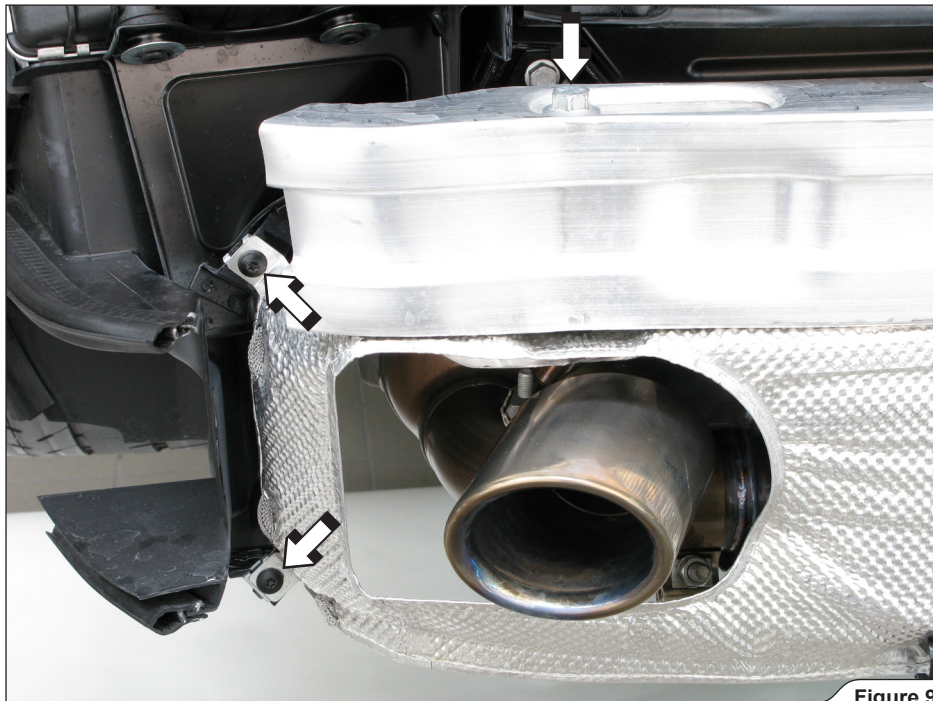

Figure 9
6. For Slip-On Race, Evolution Race and Upgrade Kit1/2: unscrew the marked bolts on both sides of the vehicle and remove exhaust heat shield (Figure 9).